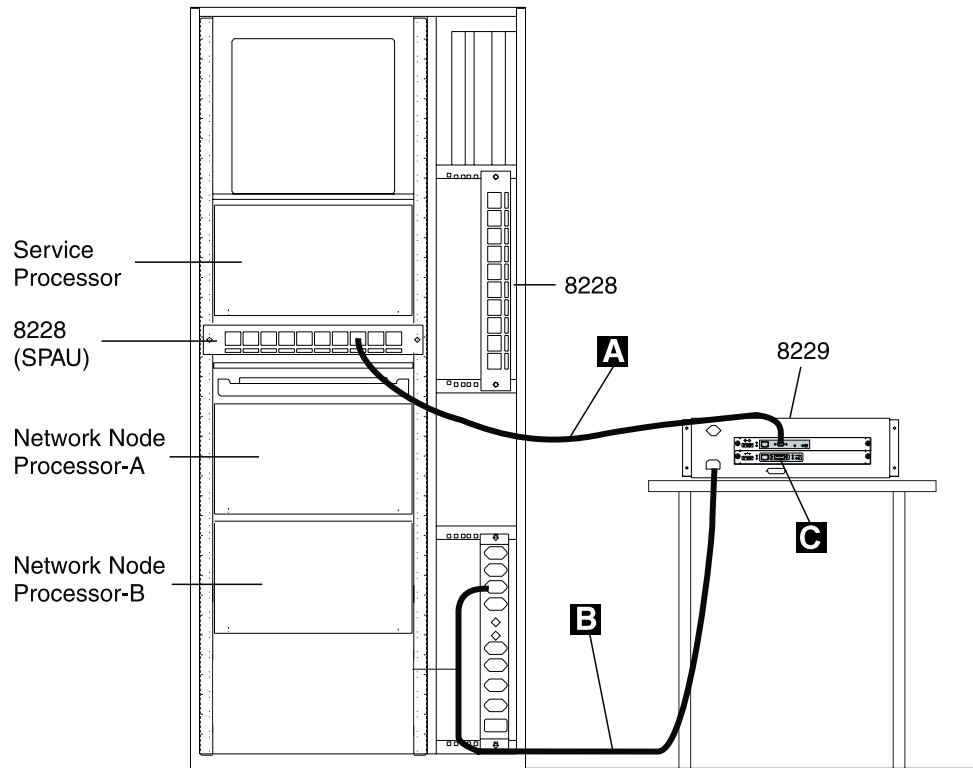

Figure 2-11. Connecting the Ethernet Bridge to the Service Processor
- a. \_\_\_\_ Refer to Figure 2-11 and install the Ethernet Bridge on a table close to the controller expansion
- a. \_\_\_\_ Refer to Figure 2-11 on page 2-11, and disconnect the power cord **B** first from the Ethernet Bridge and then from the ac outlet distribution box.